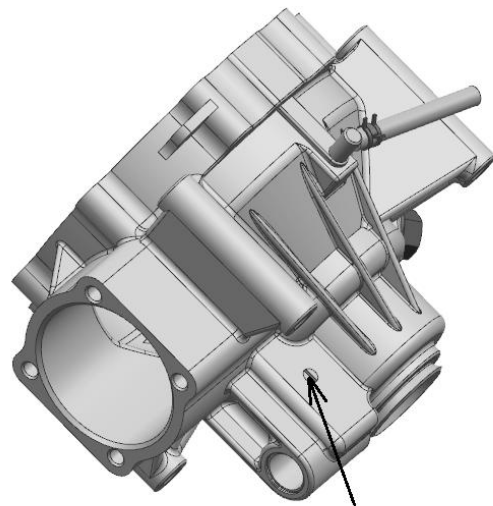

Fig 10
**11. Loosen the lock shift pin (NO.46). →Fig 10**